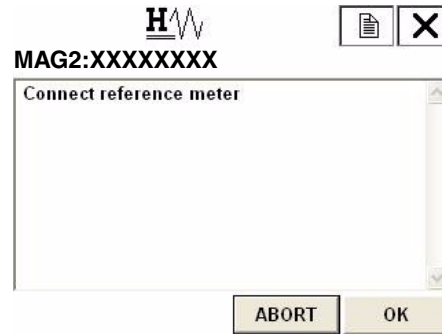

Figure 103.
- Figure 103 then appears. Connect the device to measure the current output, and then press F4 (OK).